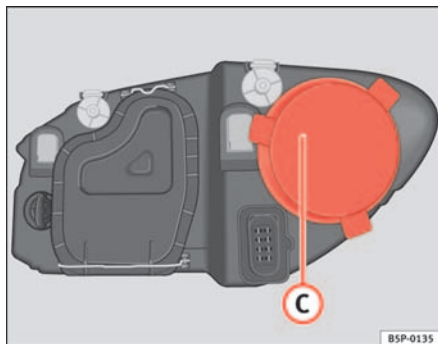

Fig. 158 Main beam headlights
- Remove the cover ⇒ fig. 158 ③ by pulling on this.